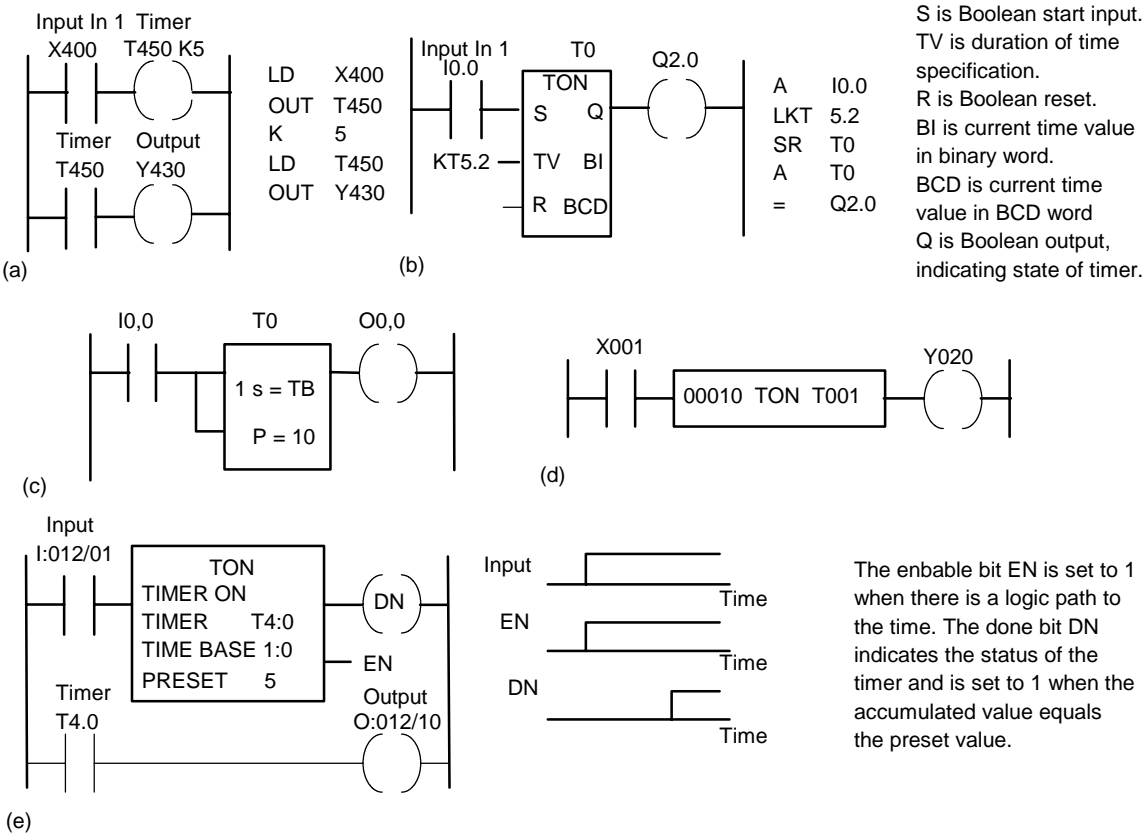

Figure 9.4 Timers: (a) Mitsubishi, (b) Siemens, (c) Telemecanique, (d) Toshiba, (e) Allen-Bradley
All PLCs generally have delay-on timers, small PLCs possibly having only this type of timer. Figure 9.4(a) shows a ladder rung diagram involving a delay-on timer. Figure 9.4(a) is typical of Mitsubishi. The timer is like a relay with a coil which is energised when the input In 1 occurs (rung 1). It then closes, after some preset time delay, its contacts on rung 2. Thus the output occurs some preset time after the input In 1 occurs. Figure 9.4(b) shows the timer to be a delay item in a rung, rather than as a relay, the example being for Siemens. When the signal at the timer's start input changes from 0 to 1, the timer starts and runs for the programmed duration, giving its output then to the output coil. The time value (TV) output can be used to ascertain the amount of time remaining at any instant. A signal input of 1 at the reset input resets the timer whether it is running or not. Techniques for the entry of preset time values vary. Often it requires the entry of a constant K command followed by the time interval in multiples of the time base used. Figure 9.4(c), (d) and (e) shows ladder diagrams Telemecanique, Toshiba and Allen-Bradley.